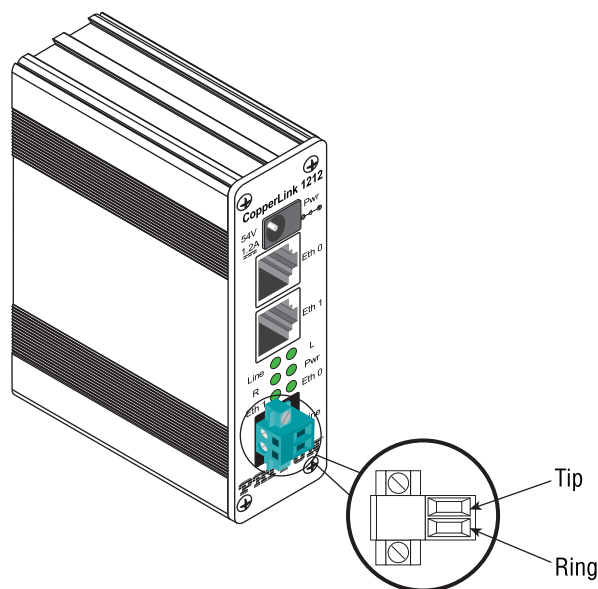

Figure 13. CL1200E (terminal block) twisted pair line interface
2. The CL1200E is equipped with a terminal block (see figure 13)